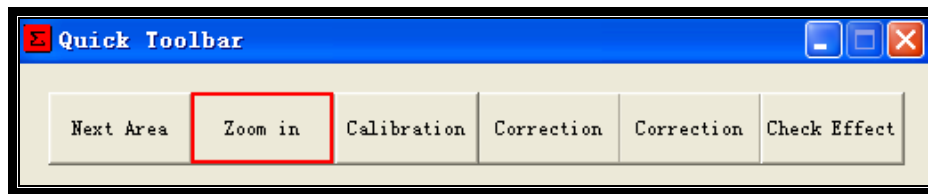

Fig.3-19
Step18: Click the “Zoom in” button on Quick Toolbar, as shown in fig.3-19, then the picture is soon magnified.